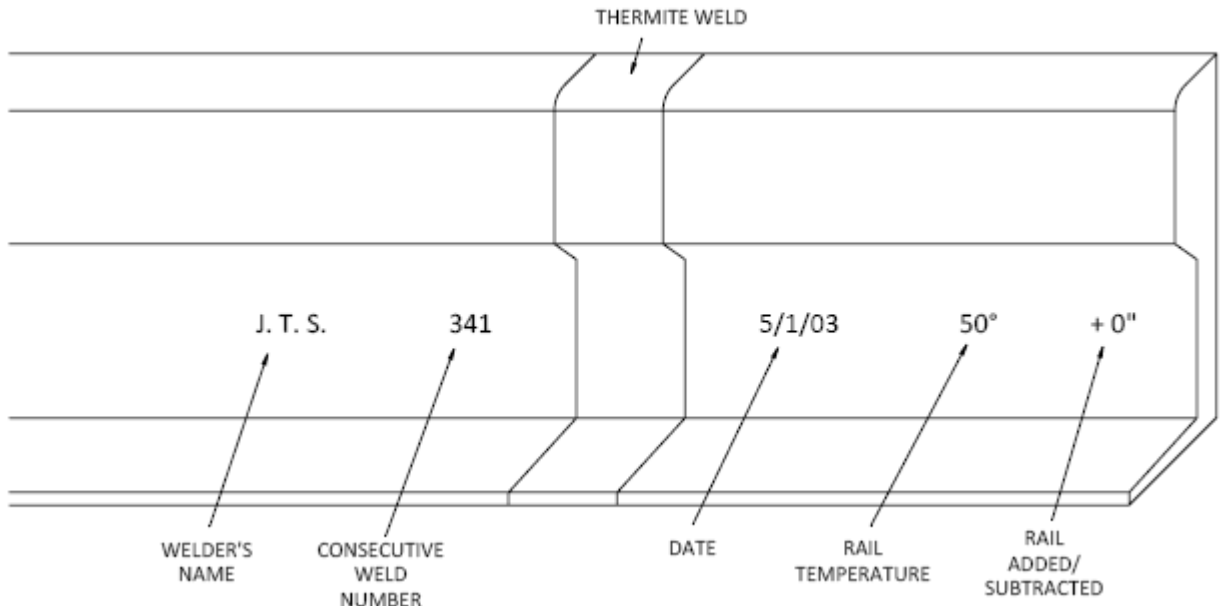

Fig. 32.1 Thermit® Weld Identification
- Amount of rail added (in inches). This information should be printed legibly. It should be printed in the order and at the locations specified in Fig. 32.1